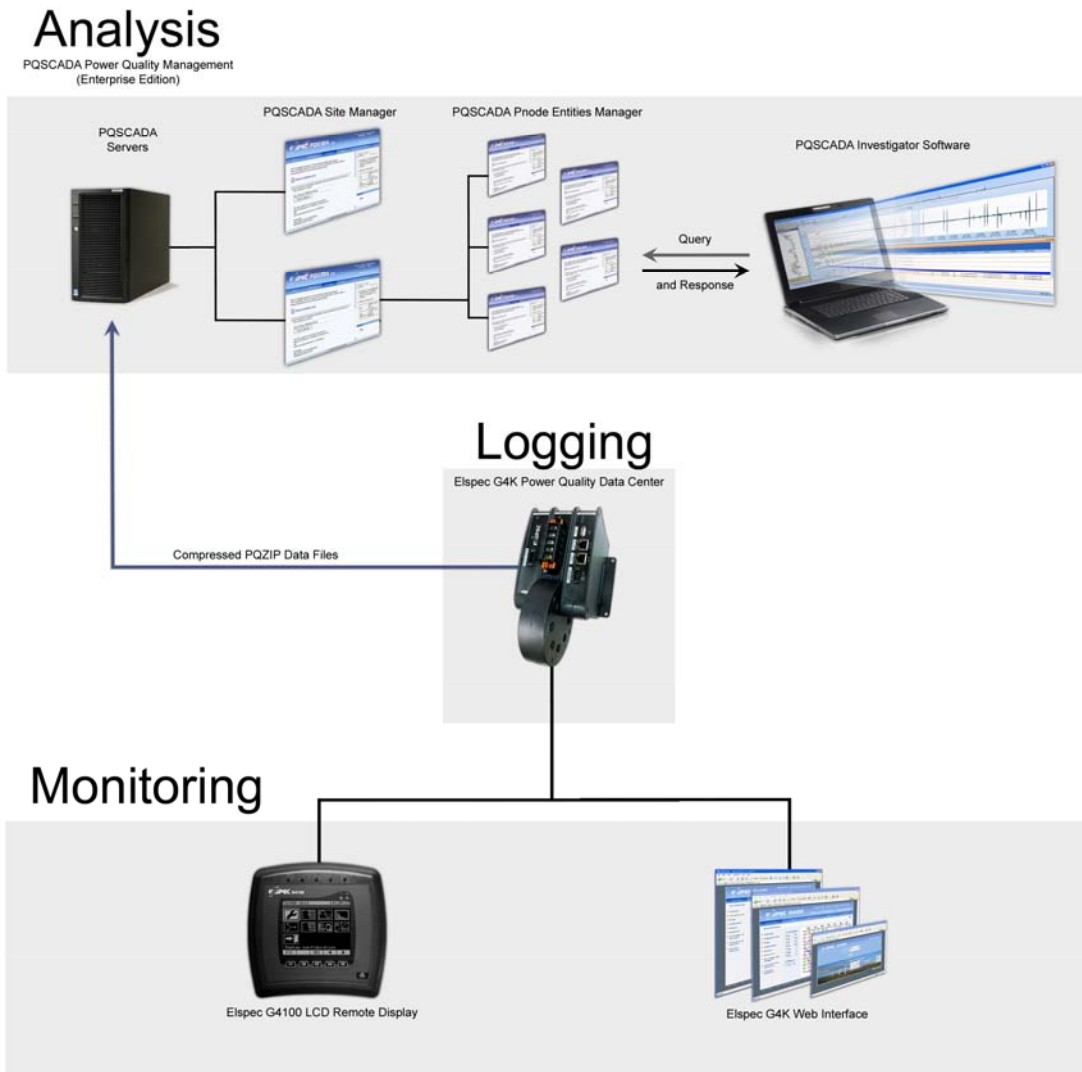

Figure 1: The Elspec G4400 Basic Module Unit
The system topology is presented in Figure 1. The G4400 series Power Quality Data Center instrument (1) is connected to the electrical system via current and potential transformers. These instruments constantly record the voltage and current waveforms at a resolution of up to 1024 samples per cycle. This data is compressed on board using the Elspec patented PQZip technology. The PQZip files are transferred to a PNode (4) running on a server managed by the Site Manager. The PNode stores the data collected from the instrument and responds to requests from client workstations running Elspec Investigator software (5). When an engineer using the Investigator software wishes to analyze the data collected by the instrument from a certain time frame, the PNode decompresses the requested data, performs the necessary mathematical calculations to display the electrical parameters requested by the client and then arranges and configures the data to be displayed on the specific screen used by the client.